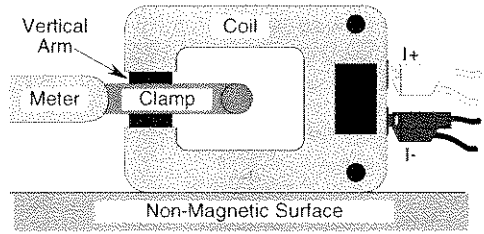

Fig. 5.4 Position of Clamp
- *Fig 5.4.* With the coils located on a non-magnetic surface (not the work mat, as it has a steel core), place the clamp in position so that it surrounds the vertical arm of the coil. Keep the clamp mid-way up the vertical arm, and away from the corners.